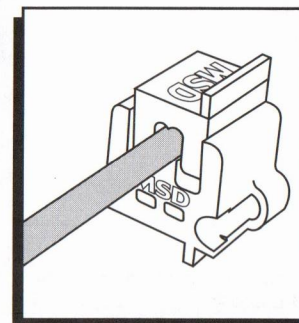

Figure 6
4. Slide the other part of the Mini-Stripper-Crimper over the wire terminal and lightly press them together (Figure 6).